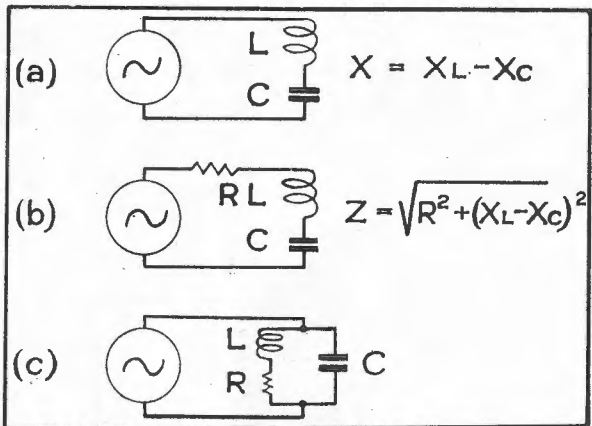

Fig. 6
Fig 6 shows several combinations of resistance, inductance and capacity which might be encountered in prac-
tice. As pointed out before, the effects of inductance and capacity are in opposite directions, so that in fig. 6 (a) the reactance of the combined quantities will be given by the expression shown alongside the diagram. (Refer to (15) and (17) for values of X_L and X_C.)
Obviously, there must always be some resistance present in the circuit in the form of the D.C. resistance of the inductor and the series resistance of the condenser. When determining the impedance of the network, these two resistances may be lumped together with any other series resistance in the circuit and shown as "R" in fig. 6 (b).
These are "series" combinations. A "parallel" combination is shown in fig. 6 (c), the resistance "R" being the D.C. resistance of the inductor. The series resistance of the condenser may be neglected for the purpose of this discussion as it will, in the majority of cases, be small compared to that of the inductor. The impedance of the network is given by the following equation:—
the impedance of a series or parallel inductance-capacity network. The overall impedance of a combination such as this may be obtained by first calculating the impedance of the inductance-capacity network (fig. 6 (b) if in series; equation (18) if in parallel) and then treating the impedance thus obtained as one leg of a parallel resistance combination and the shunt resistance as the other. Equation (8), in the section on Ohm's Law for D.C., will then give the final value of impedance for the shunted network. This example is another instance of the universal importance of Ohm's Law in the solution of radio problems.
It has already been shown that "X_L" and "X_C" cancel out when resonance is reached in a "series" circuit, and that, as a result, the reactance, or impedance, of the network is then equal to the value of any series resistance which is present in the circuit. Such a circuit was shown in Fig. 6 (b).